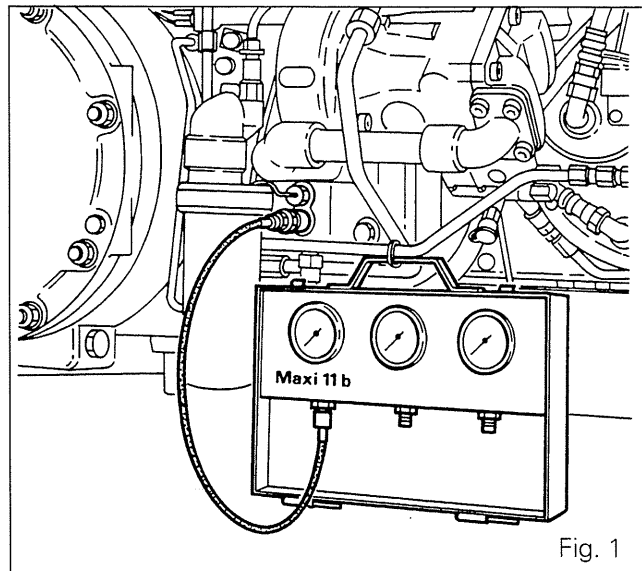

Fig. 1
- Connect a pressure gauge to the diagnostic connector located on the right-hand hydraulic cover (Fig. 1) and check **P1**.